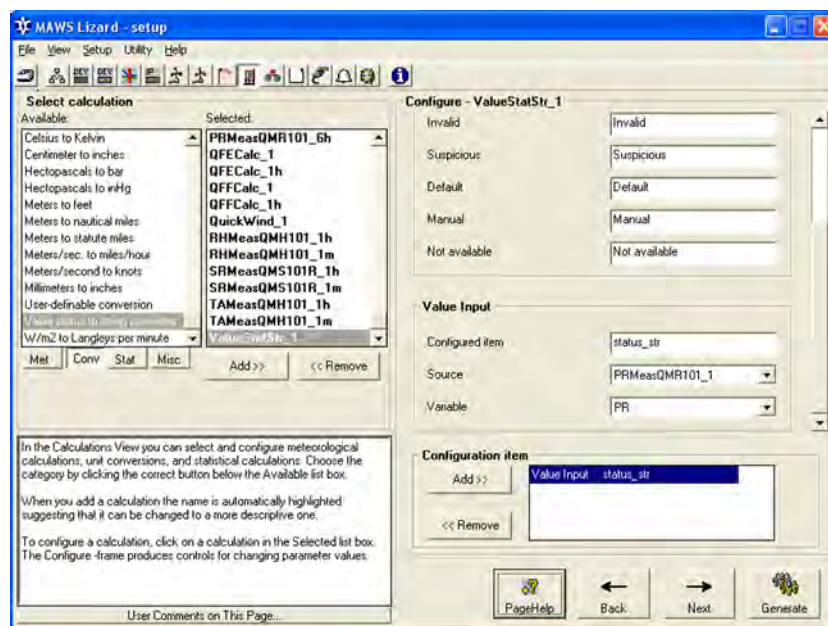

Figure 52 Calculations View: Configuring Status Strings (2/2)
4. Select the data item to which the status conversion applies by selecting a source and a variable in the **Value input** frame; see Figure 52 on page 112. If you want the same conversion to apply to other data items as well, click the **Add** button to add the rest of the data items.